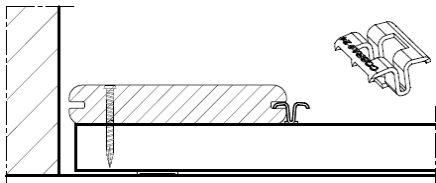

Figure 1
3. Insert COBRA® fasteners into the groove channel of the 1st board at every support joist (**Figure 1**).
4. Position the 2nd board against the fasteners. Slightly lift the outer edge of the 2nd board to ease the assembly (**Figure 1 bis**). COBRA® fasteners allow a 5-6mm board spacing.
Figure 1 bis